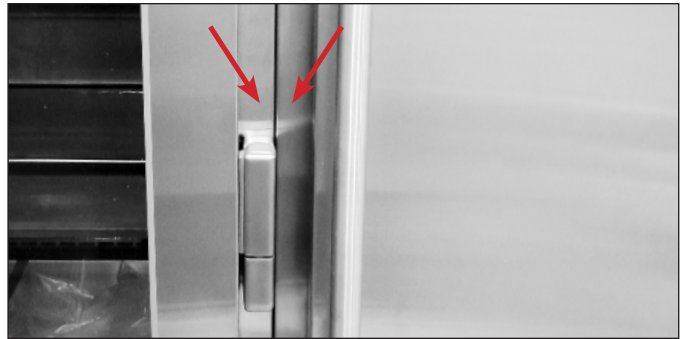

FIG. 15. Verify the cabinet fronts are flush. Adjust the units accordingly.
9. Verify the fronts of the units are flush at the seams and the gap(s) between the units is (are) consistent from top to bottom. See figs. 15 and 16.